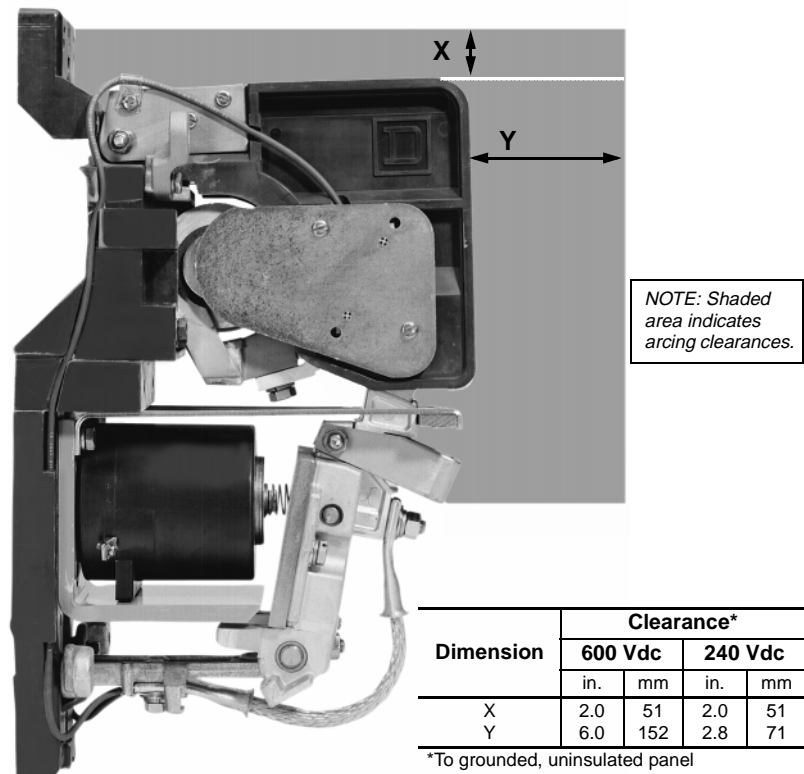

Figure 1: Electrical Clearances
2. Inspect the nameplate data for correct equipment. Visually verify that the contactor operating coil (39) is the correct voltage. The operating coil circuit voltage may differ from the power circuit voltage.
4. Mount the contactor vertically on a rigid support and secure it tightly, using a plain washer against the contactor base. Provide the clearances shown in Figure 1 above the top of the contactor and in front of the arc chute.